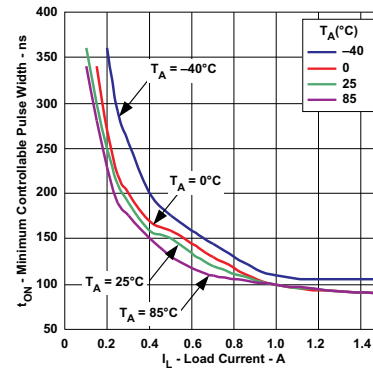

Figure 14. Minimum Controllable Pulse Width vs Load Current
(3) See Figure 14 for I_{SWx} peak current <1 A.